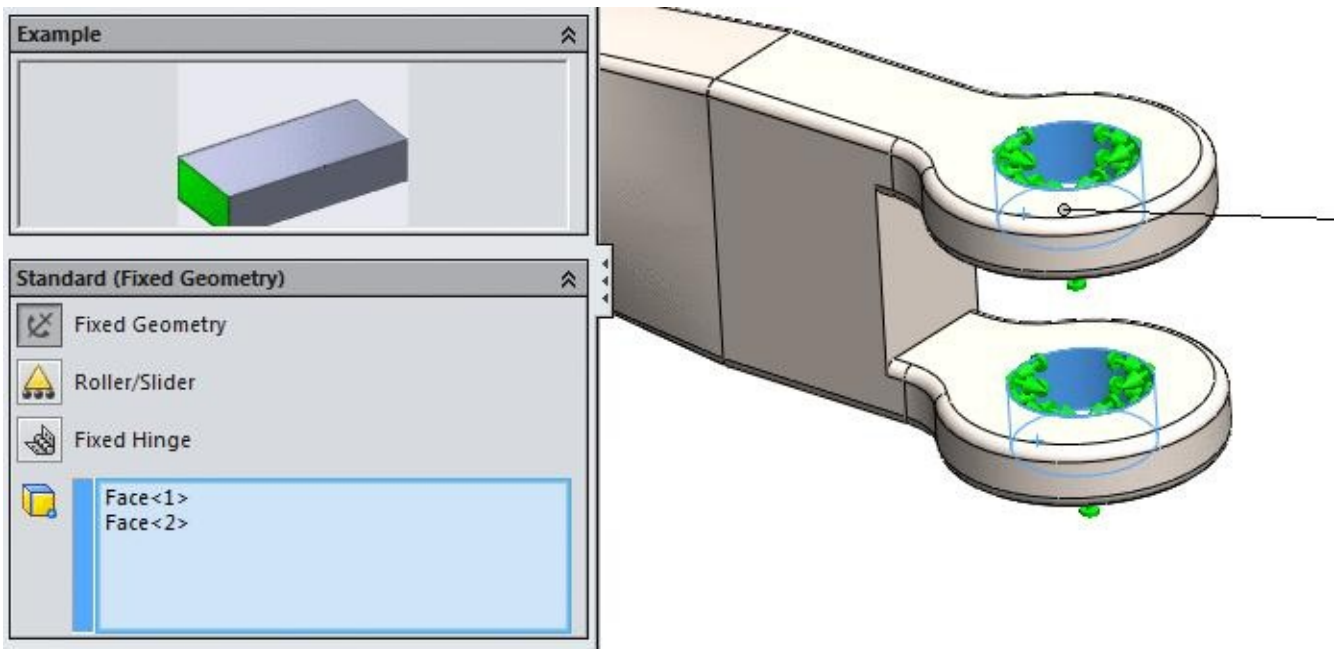

Figure-19. Holes fixed
- Select the holes cut from the model as shown in Figure-19.